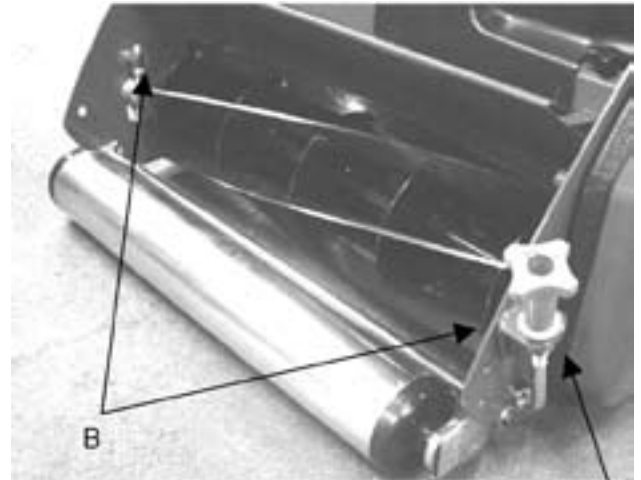

Figure 7. Cutter adjustment.
1. Loosen the clamping nuts (A) on both sides of the mower Figure 7.
2. To set the cutter closer to the bottom blade, turn the adjusting screws (B) on both sides of the mower anti-clockwise until the cutter just contacts the bottom blade at both ends. Figure 7.
4. Retighten the clamping nuts (A) Figure 7.